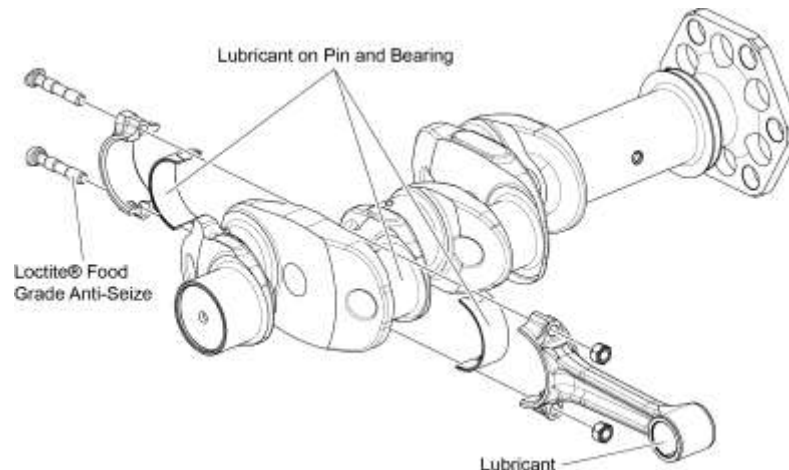

Figure 32
- B. Apply specified lubricant to the connecting rod and bearing inserts per the latest revision of Service Instruction No. SI-1059 where shown in Figure 32. Different lubricants are used on the various areas on the connecting rod and bearing surfaces.
- F. Apply Loctite® Food-Grade Anti-Seize Lubricant to the bottom two or three threads of the new connecting rod bolts (Figure 32). Wipe away excess lubricant with a clean, lint-free cloth.